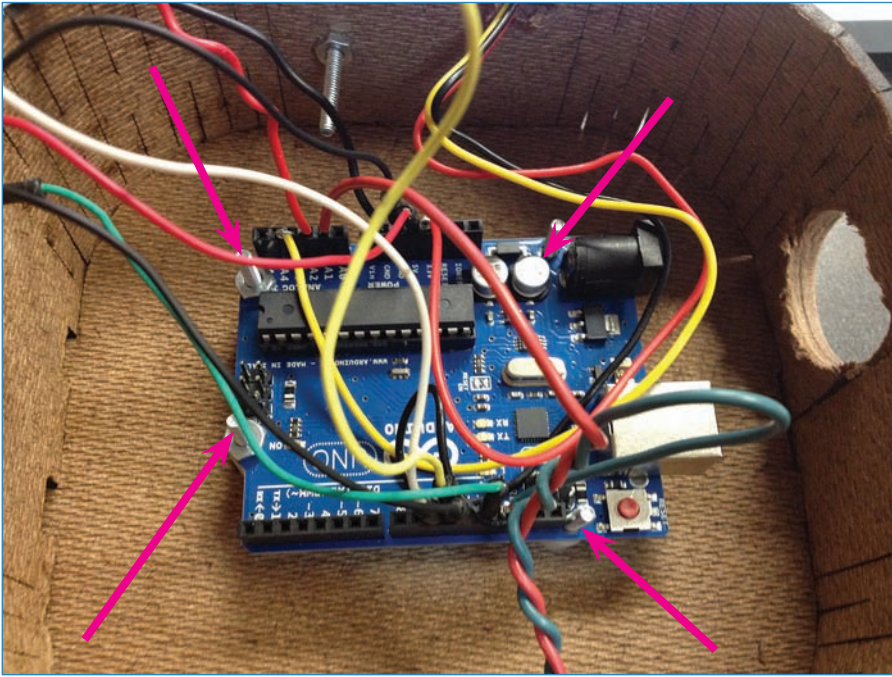

FIGURE 6.19 The Arduino, all wired up!
- 6. Connect the Arduino to the box**—After you attach the globe and wire up the ShiftBrite, you attach and wire up the Arduino. I connected the Arduino to the box using #4 bolts threaded through holes I drilled in the bottom panel, with 3/8" plastic standoffs. See Figure 6.19.